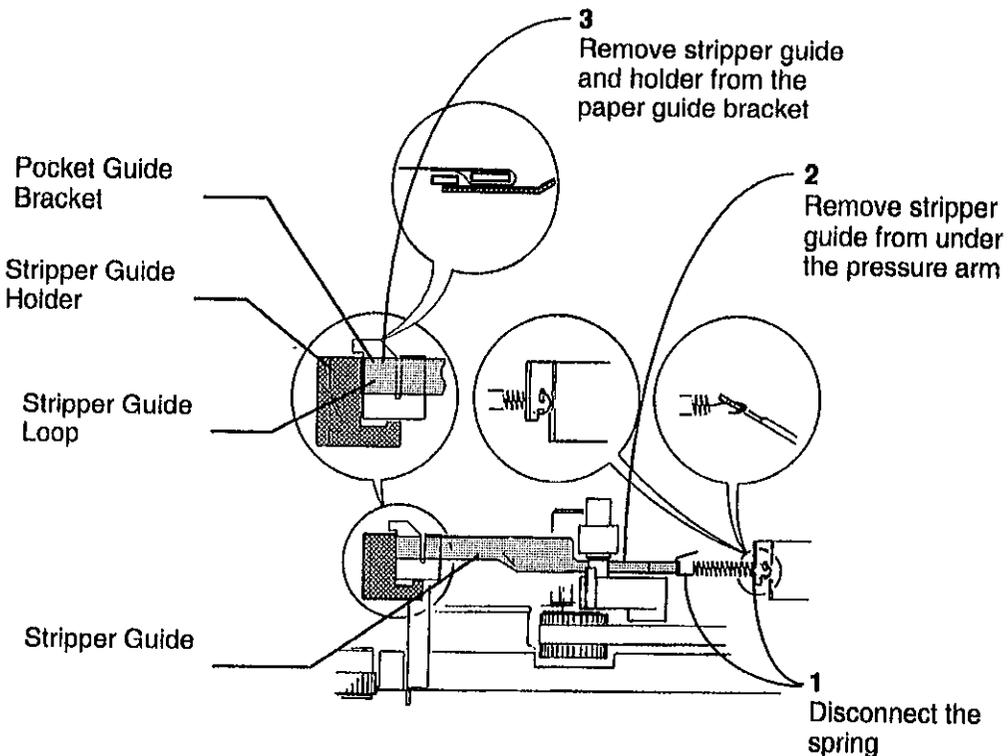

Figure 1. Removing the Stripper Guide and the Stripper Guide Holder
- 3 (Figure 1) Remove the stripper guide and the stripper guide holder.